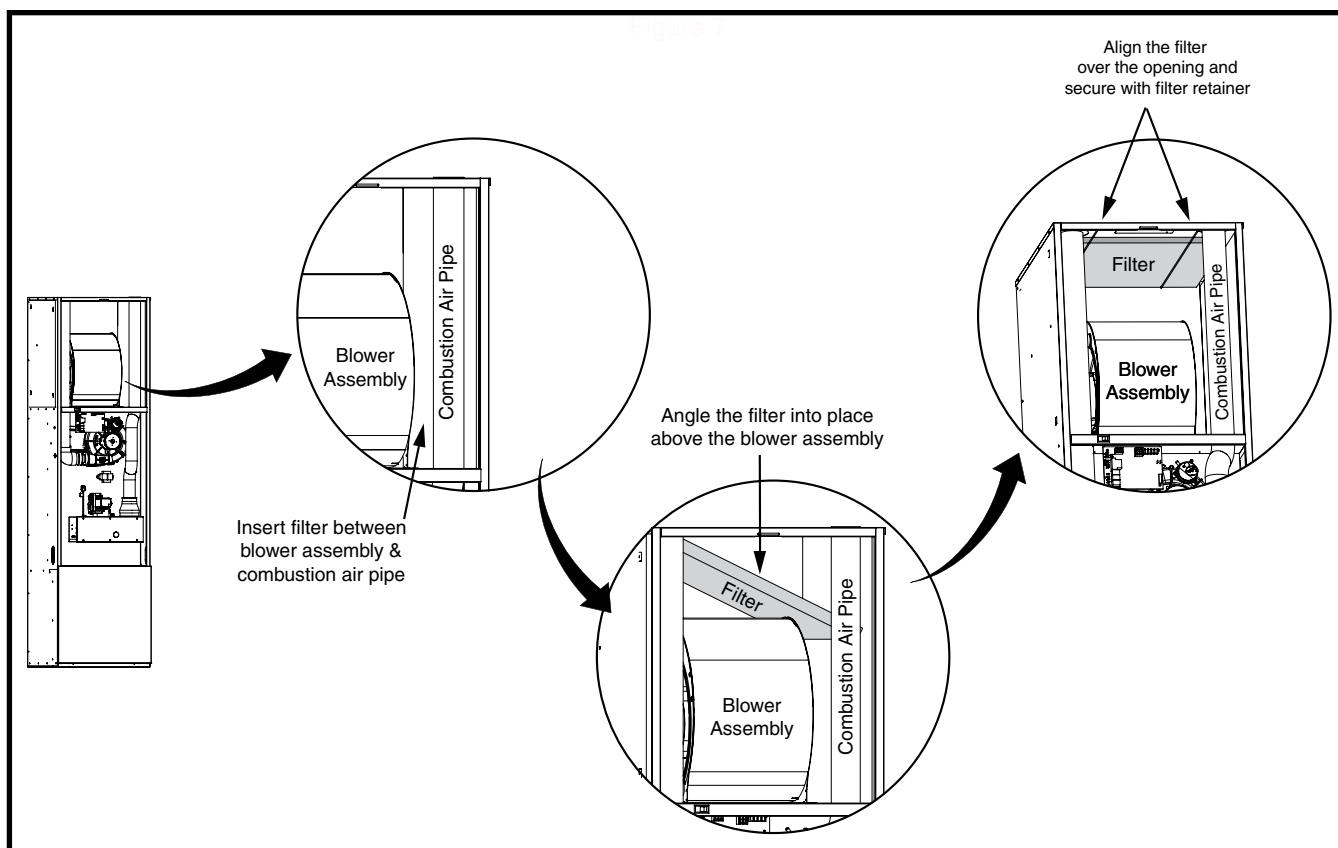

Figure 7. Filter Installation
1. Slide the standard 18"x18"x1" filter (NORDYNE P/N 669779) into the space between the combustion air pipe and the blower assembly. See Figure 7 \(page 13\). **NOTE:** Make sure the airflow arrows on the filter point towards the blower assembly.
4. Evenly align the filter over the opening in the top of the furnace cabinet and position the other end of filter retainer up over the flange in the furnace's top panel. **NOTE:** To properly secure the filter, make sure the filter retainer is properly positioned in the top panel of the furnace. There should be no visible air gaps. The retainer may slide left or right slightly, but must not have any movement between the front and rear. See Figure 7.